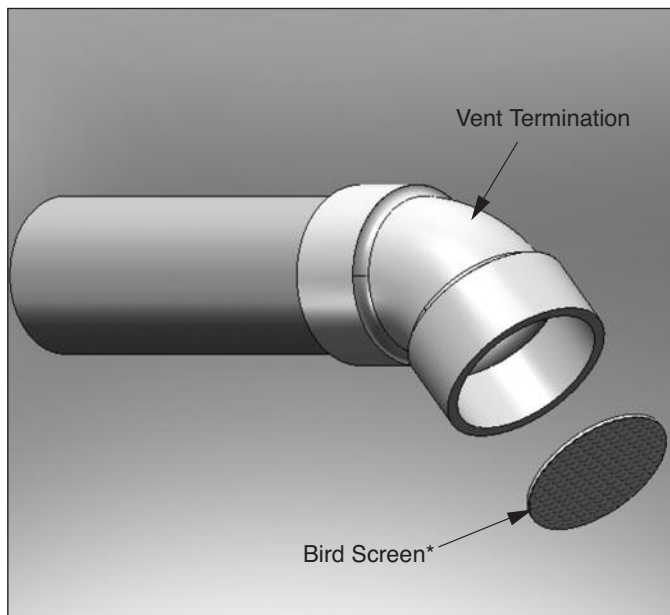

Fig. 12: Horizontal Vent Bird Screen Installation with 45° Elbow Termination
1. The vent and combustion air terminations must include a factory supplied "bird screen" installed as shown in Figs. 12 through 14, page 18.